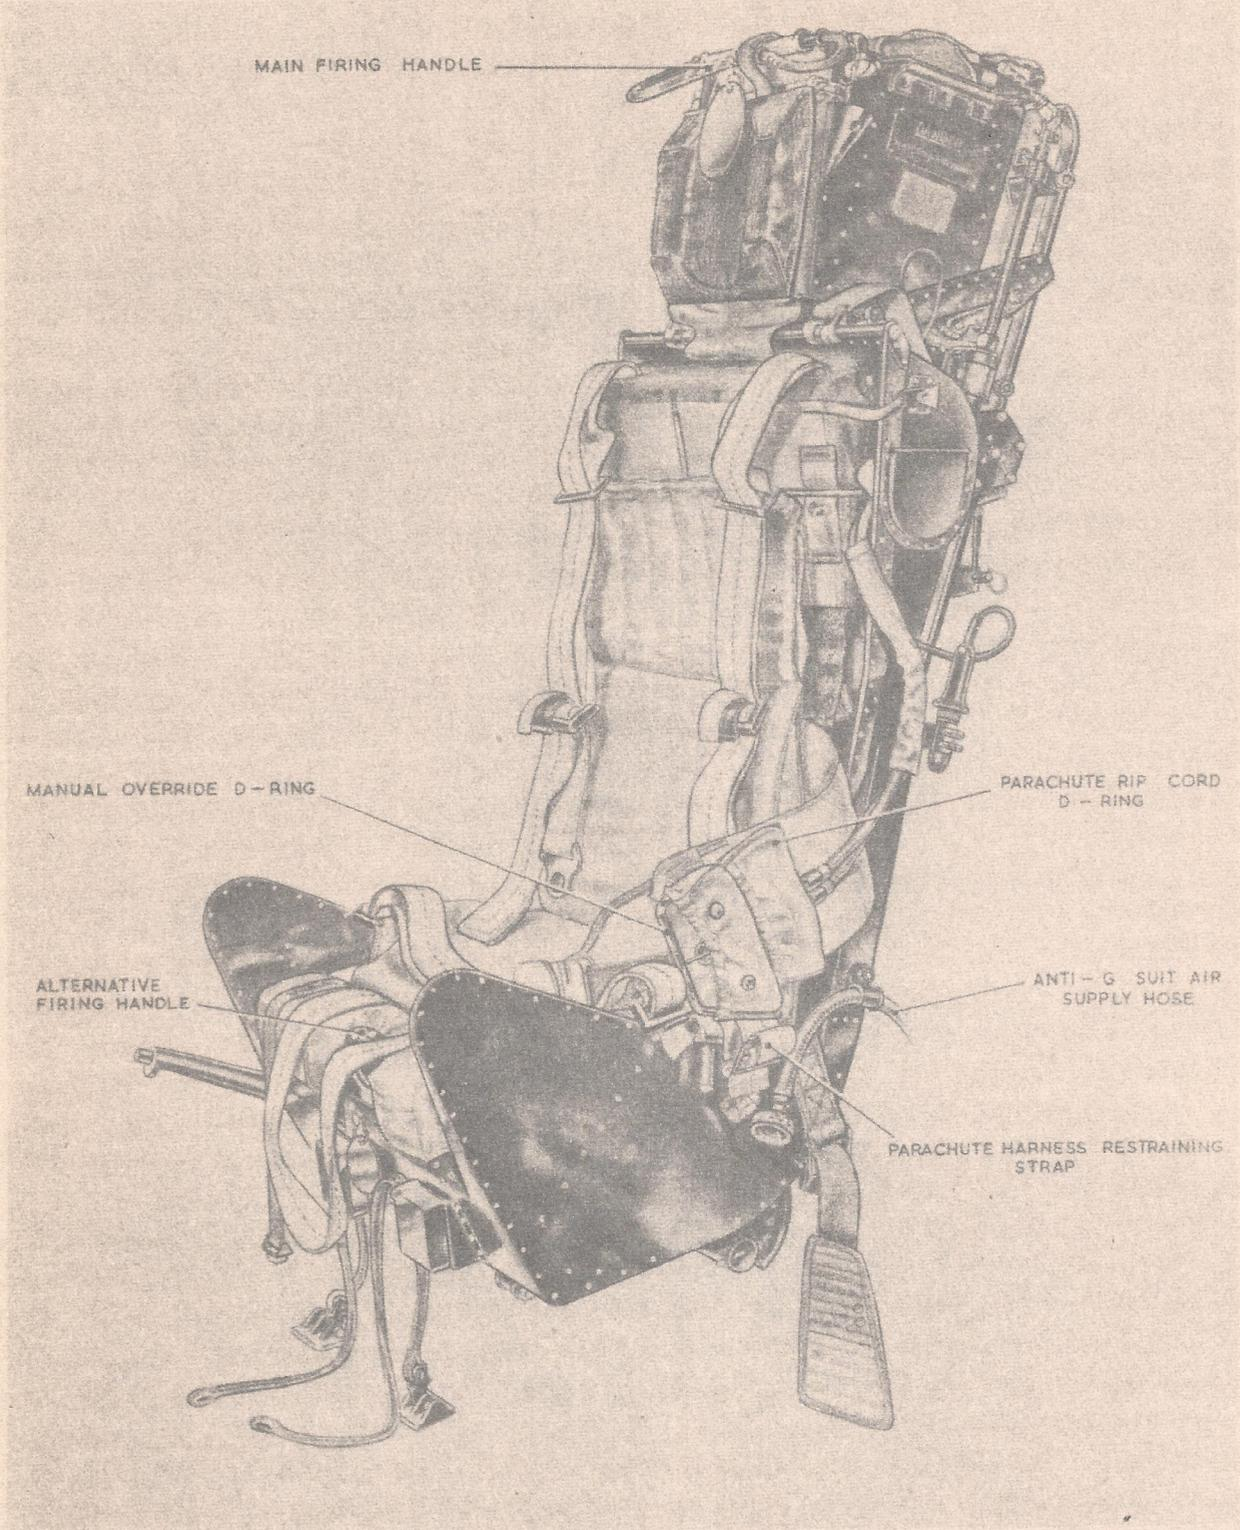

FIG.2. THE SEAT EQUIPPED (2)
5. Fully automatic facilities are provided to separate the pilot from the seat after ejection and to open the parachute canopy after separation. A manual override control (in the form of a D-ring) is provided on the parachute harness waistbelt (fig.2); this D-ring is pulled across the body (to the full extent of the cable) to disconnect the parachute automatic withdrawal device from the seat if the need arises to (a) make a manual bale-out from the aircraft or (b) make a manual separation from the seat after ejection.